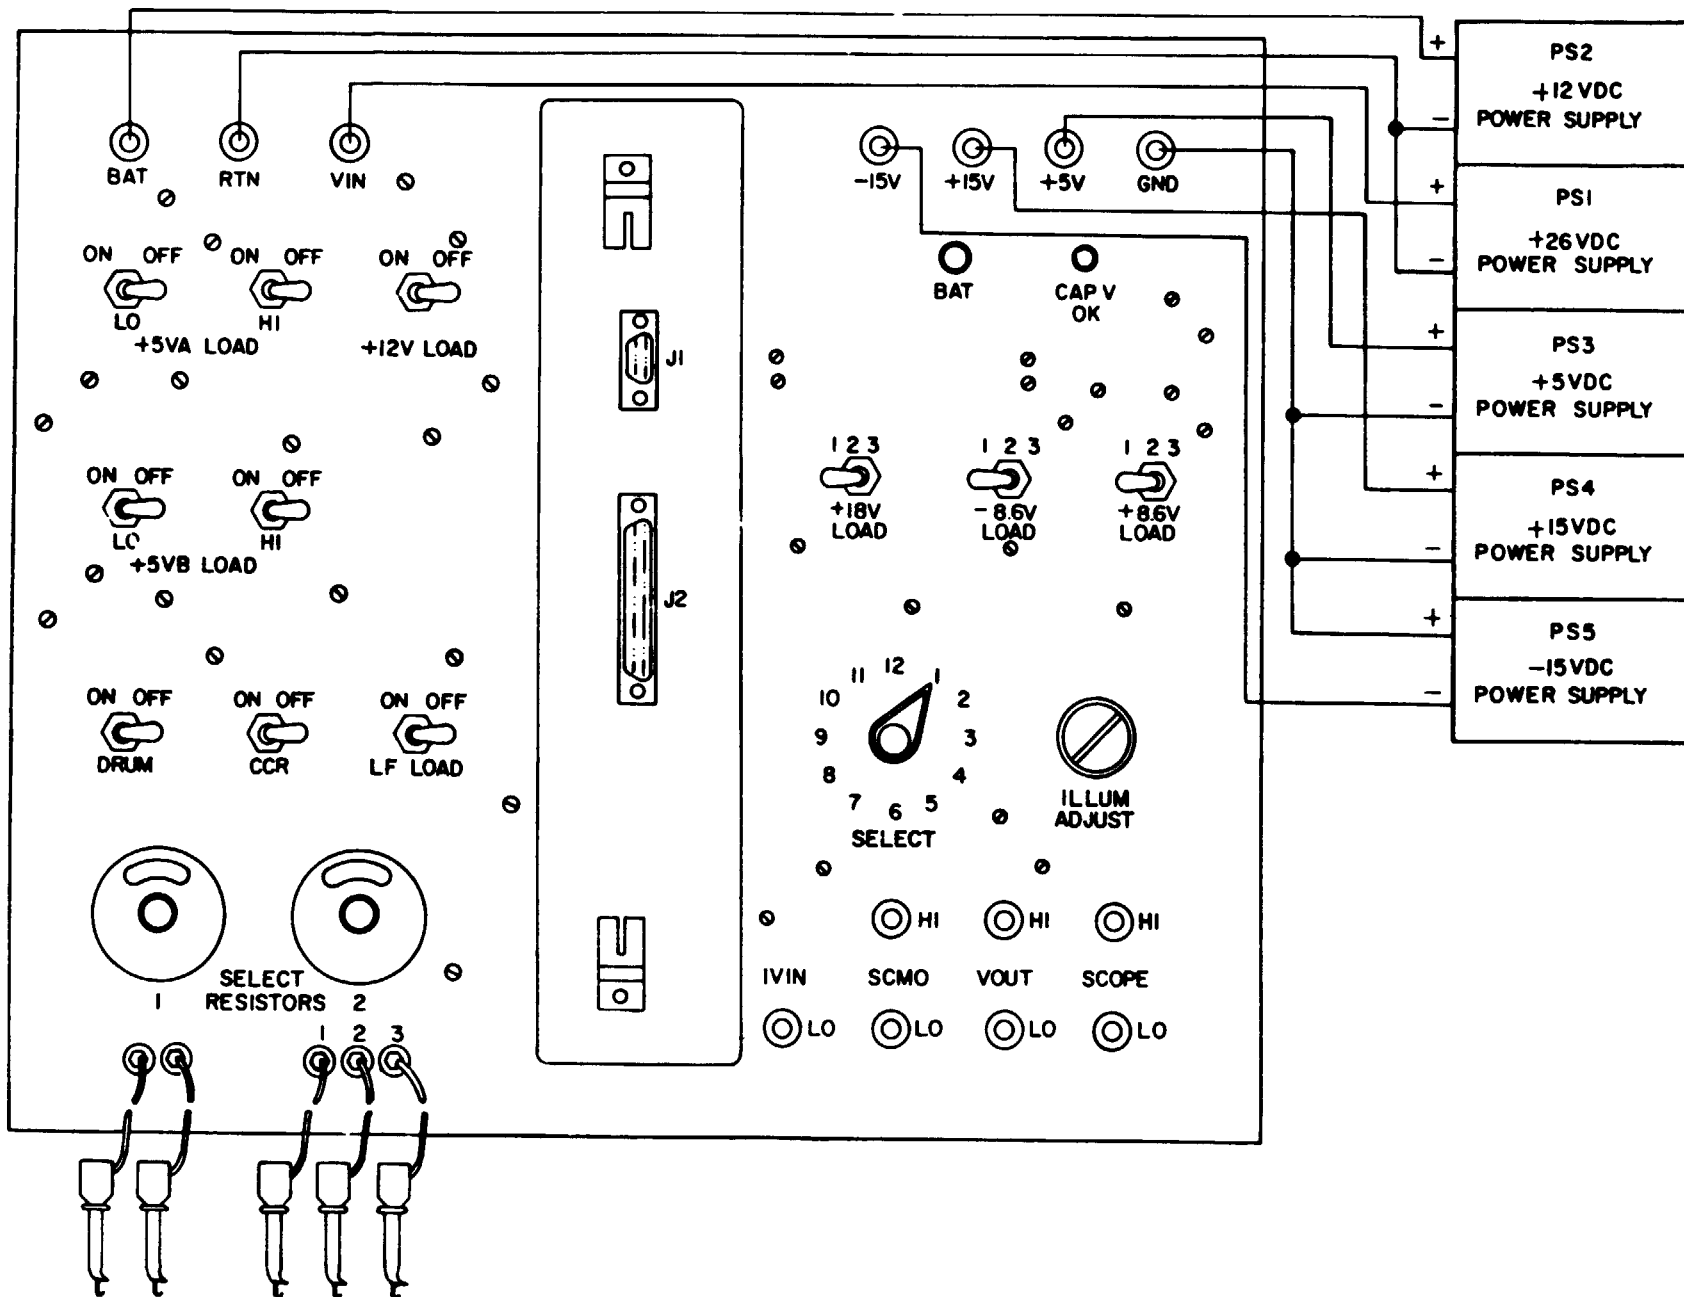

Figure 6-22. POWER SUPPLY TEST SETUP.
d. Test Setup Procedure for Power Supply (fig. 6-22).
6-28. POWER SUPPLY ADJUSTMENTS (fig. 6-22)
a. +5V(A) Adjustment.
- Set up power supply test figure configuration as described in paragraph 6-27d and figure 6-22.